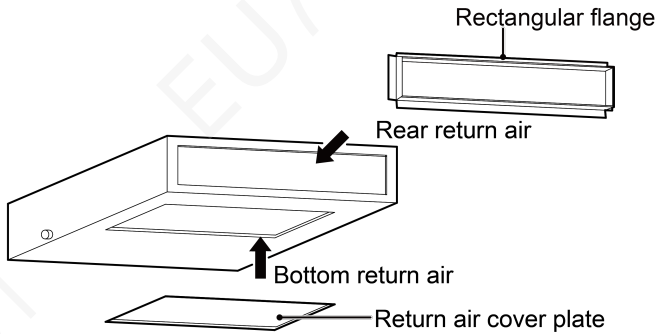

Fig 4.22
- (1) Square flange is defaulted to be fitted on the back before ex-factory. Air-return cover is on the bottom, as shown in Fig 4.22.